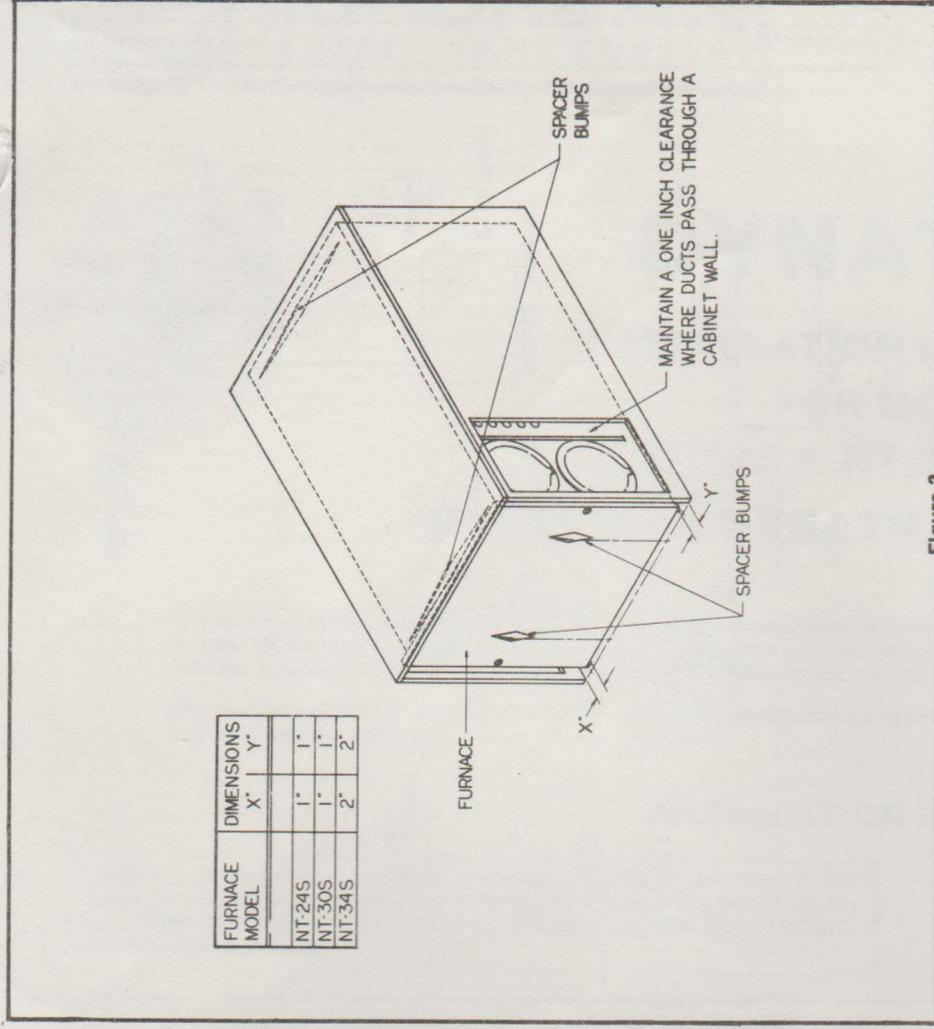

Figure 3
- 2-Choose a location for installation out of the way of wires, pipes, etc. which might interfere with the installation. Adhere to the minimum clearances from the cabinet to combustible construction as listed in Table 1. Refer to Figure 3 for illustration of furnace clearances.
COMBUSTIBLE MATERIAL - 1" (See Figure 3)**
e-Maintain a minimum of 1" clearance where ducts pass through any combustible construction such as coach cabinetry (see Figure 3).